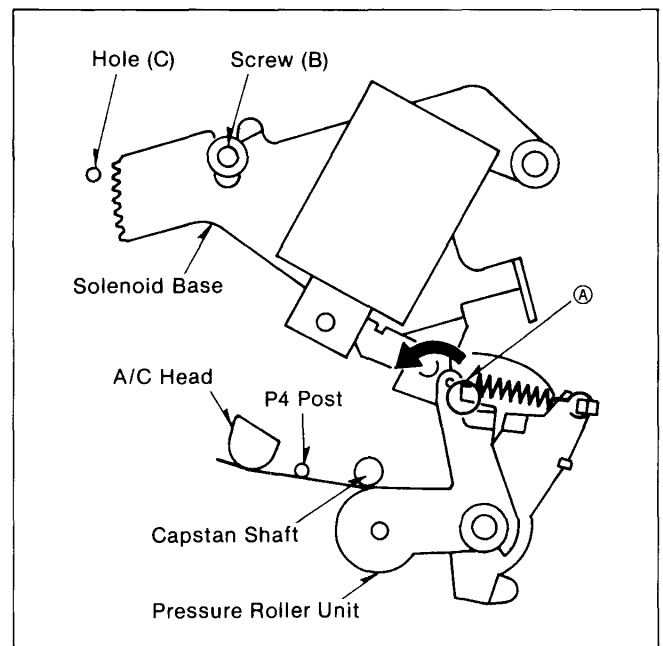

Figure M40
3. Insert a Fine Adj. Screwdriver in the hole (C).
4. Slightly loosen the screw (B).
5. Set the Fan Type Tension Gauge to the part (A) of Pinch Roller Unit.
6. Press the Arm with the Gauge, in the direction indicated by the arrow as show in Figure M40.